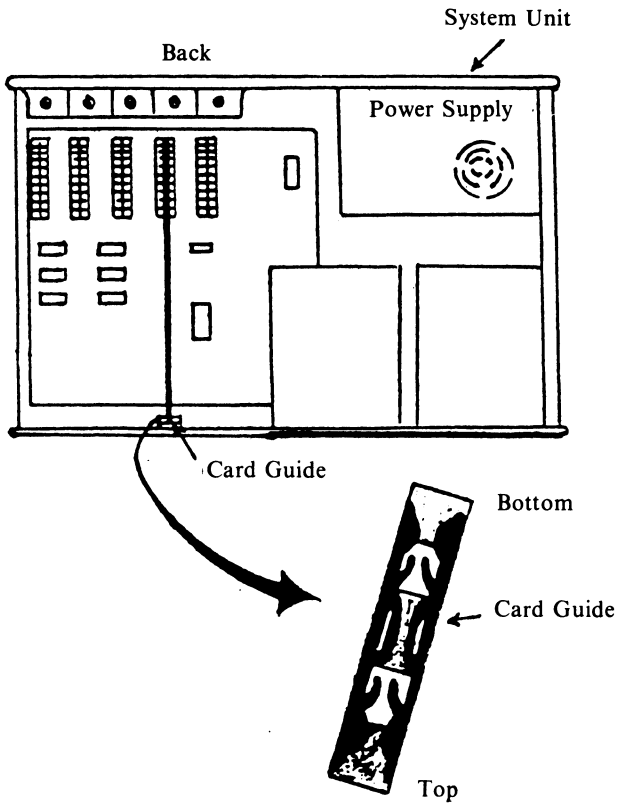

Figure 3.5 Installing a Card Guide and the Spectrum Board
- 7) Insert the supplied card guide into the front of the system unit, using the holes corresponding to the expansion slot chosen for the SPECTRUM Card. Refer to Figure 3.5